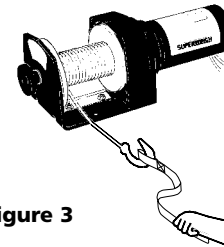

Figure 3
8. KEEP CLEAR OF WINCH, TAUT WIRE ROPE AND HOOK WHEN OPERATING WINCH. Never put your finger through the hook. If your finger should become trapped in the hook, you could lose your finger. ALWAYS USE THE HANDSAVER when guiding the wire rope in or out (See Figure 3).